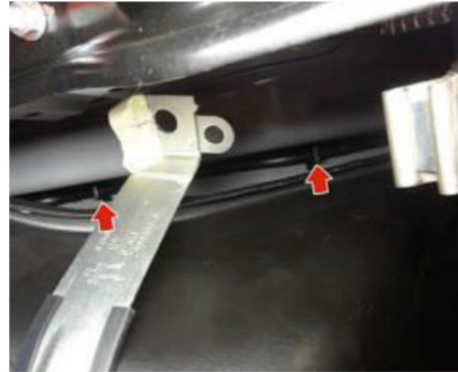

Fig.35
31. Snap the new tank delivery line into the securing clamps above the fuel tank. (Fig.35)